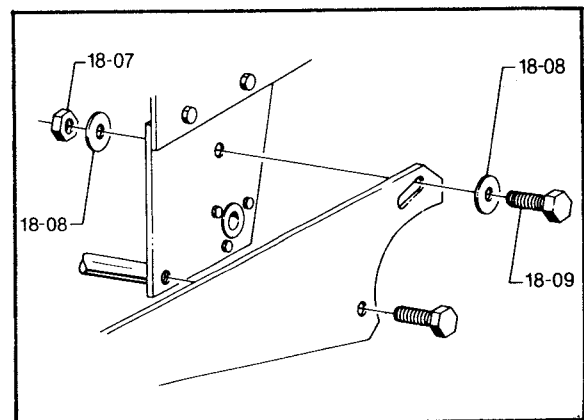

Figure 2 - Fasteners used for installation on all models of case sealers EXCEPT 7A Model 176 & 7R Model 176.
5. For all models of case sealers, except 7A Model 176 & 7R Model 176, remove chain guards (F) by means of phillips head screwdriver. Mount tape drum bracket using one screw (C) and fasteners 18-07, 08, and 09 as illustrated in figure 2. Re-mount chain guards.
6. Install the tape drum assembly (A) on the bracket (D) as shown and secure at a dimension 0.60 inch [16 mm] between the bracket and tape drum flange to accommodate 2 inch [50 mm] wide tape rolls. To center the tape web on the applying roller or accommodate other tape roll widths, refer to the tape web alignment adjustment in the adjustment section of the instruction manual that came with the case sealer.